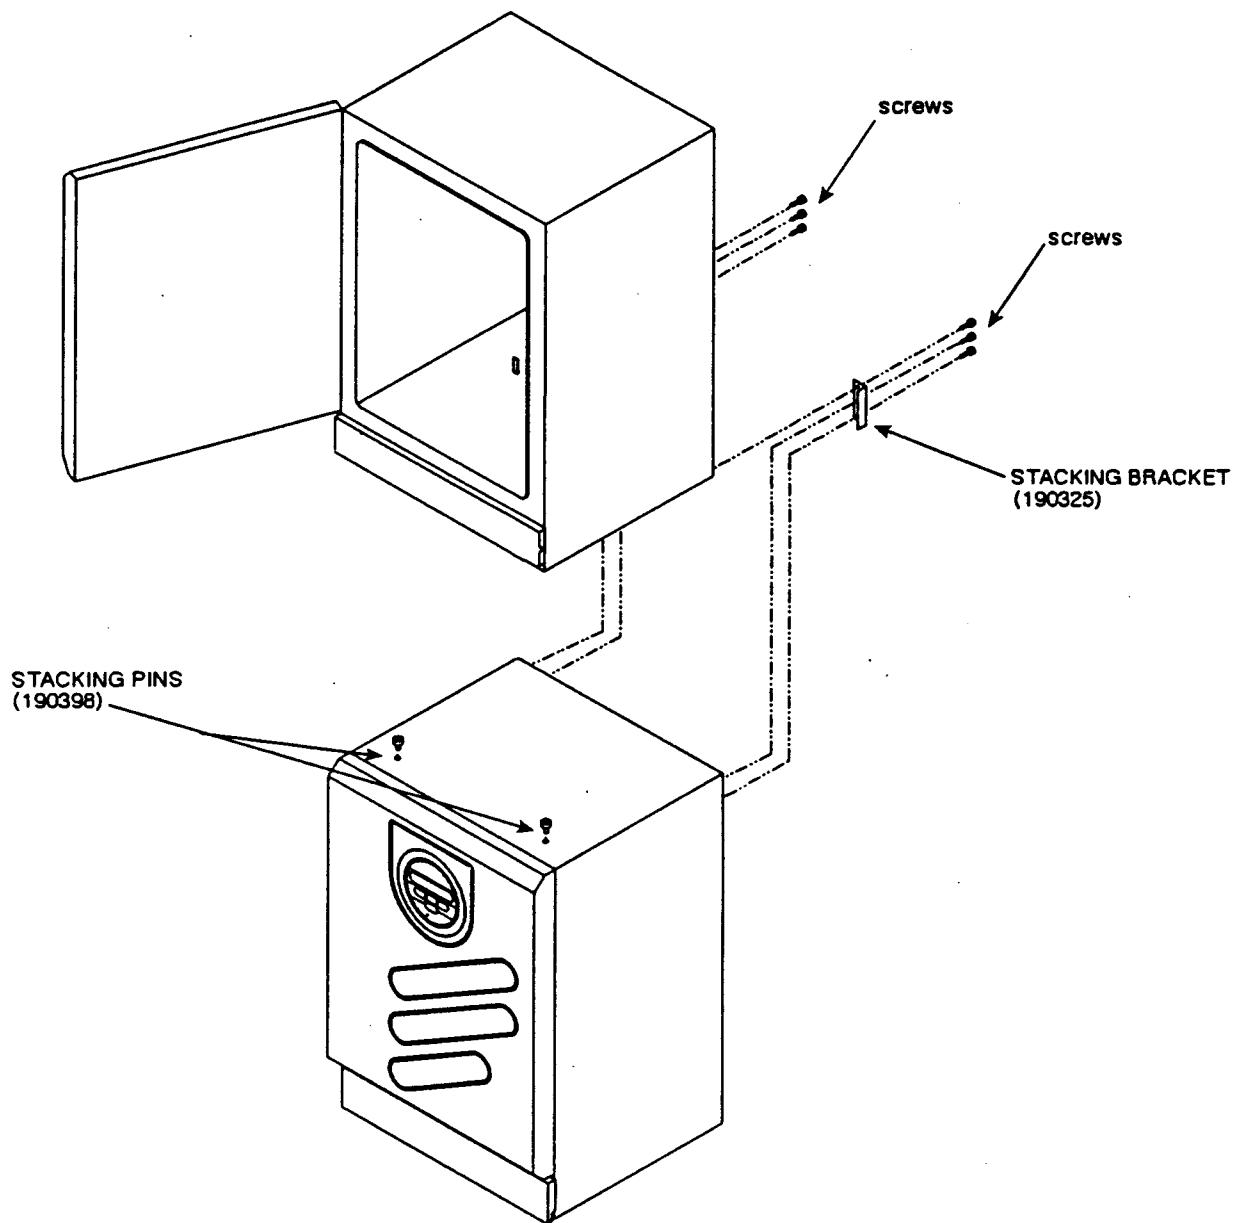
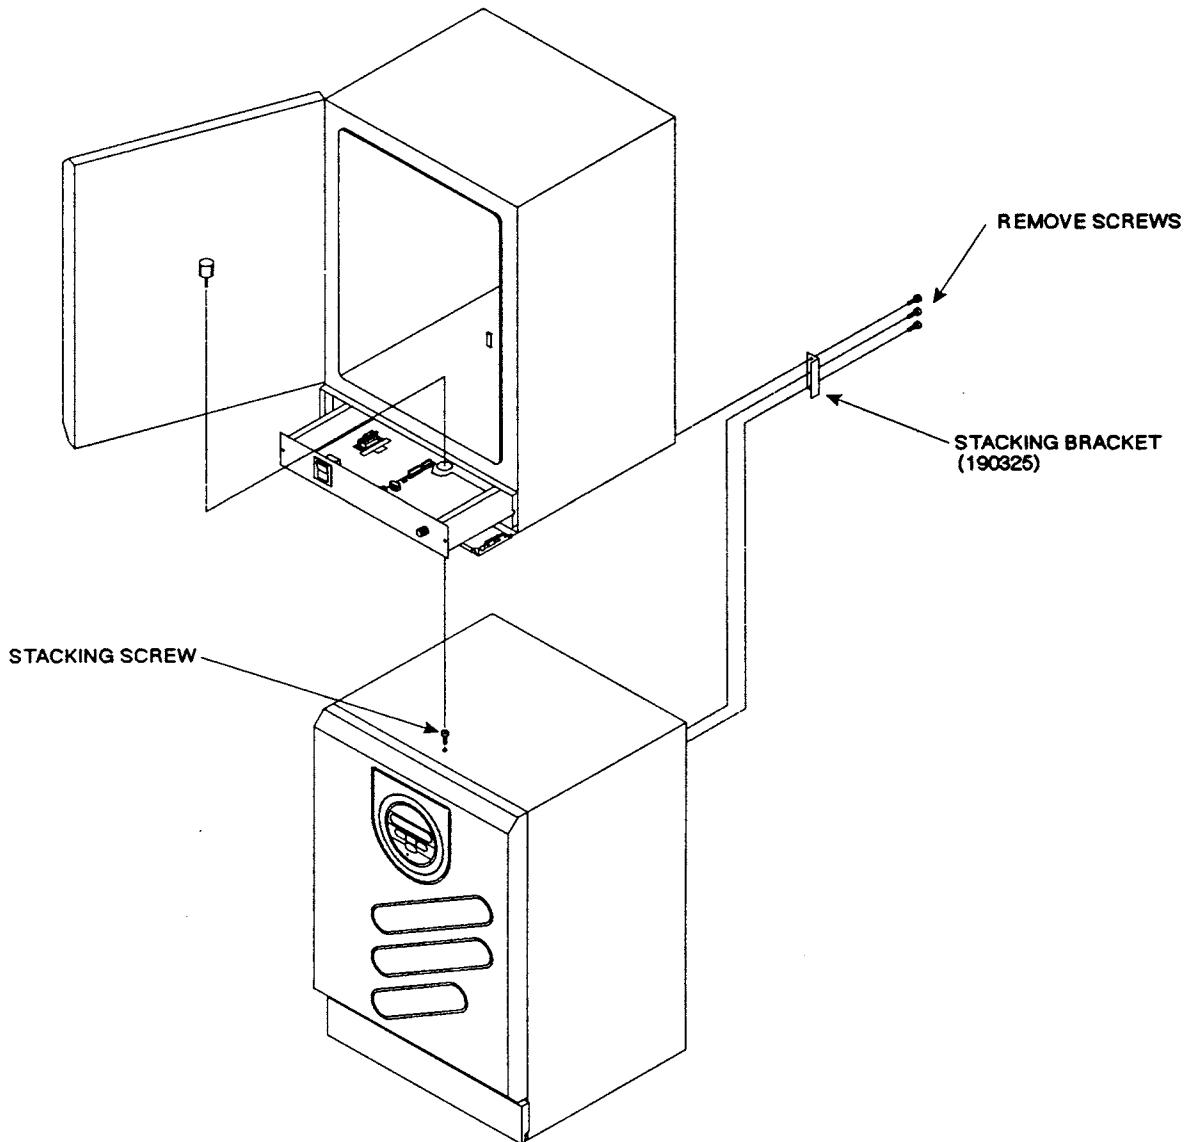

Figure 2.4
Figure 2.4a
2.7 Stacking the Incubators (Refer to Figure 2.4)
2. Remove the (2) stacking screws from the top panel of the bottom unit.
7. Attach the stacking brackets onto the back of the incubators using the screws and screw holes from step 6. . (Refer to Figure 2.4).
When stacking Release 1 and Release 2 incubators, the Release 1 unit must be placed on the bottom. The units are fastened together using the two stacking brackets on the back of the cabinets and a single stacking screw connecting the top unit to the bottom unit. refer to Figure 2.4 and Figure 2.4a.